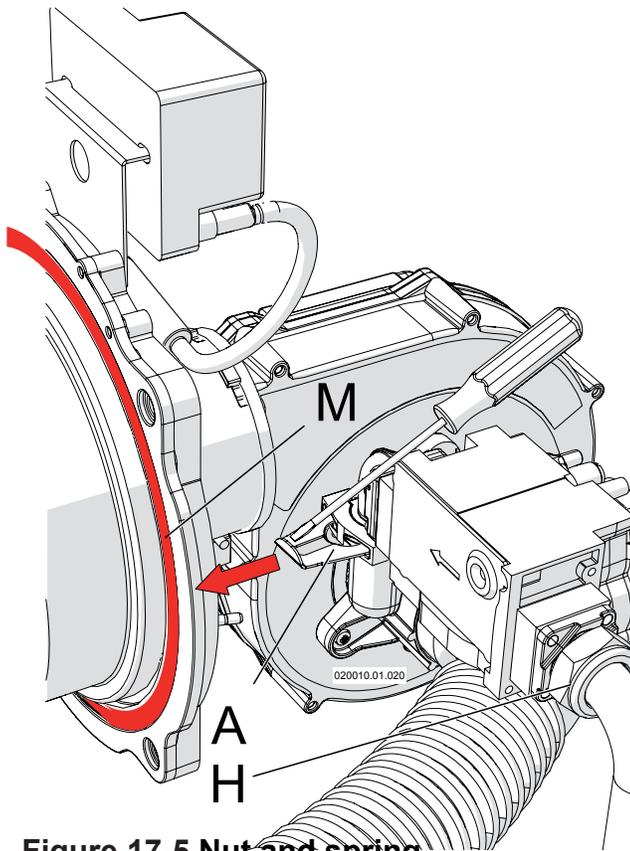
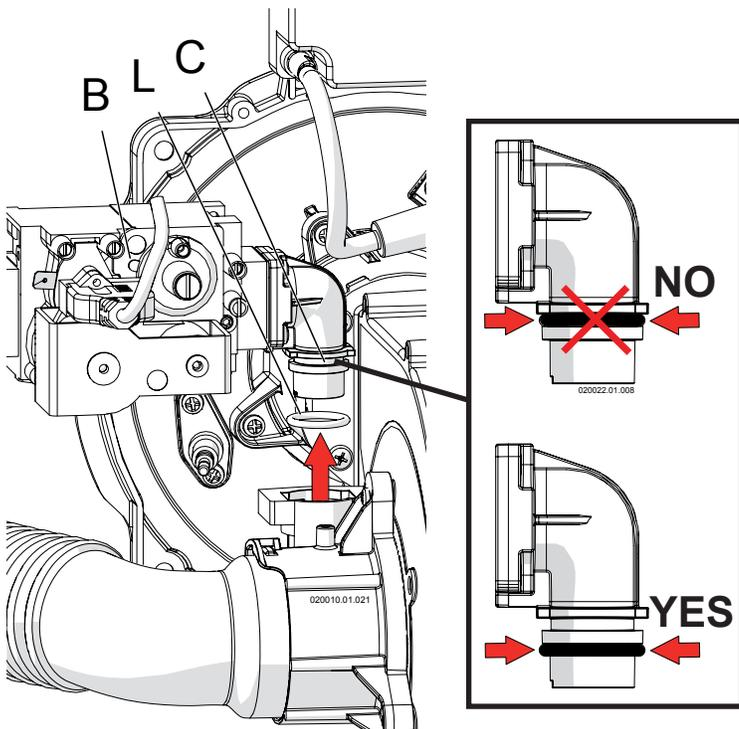

Figure 17-5 Nut and spring that fixes the gas valve
Figure 17-6 Remove the gas valve
7. unscrew nut "H" (Figure 17-5). Pay attention to the gasket between nut "H" (Figure 17-5) and the gas valve.
8. take away the spring "A" as per Figure 17-5. Help yourself with a screwdriver;
10. Remove the gas valve from its position (see Figure 17-6). Take care attention to the o-ring "L" of Figure 17-6;
17. replace gasket "M" as per Figure 17-5 (Part number for this gasket is 60703047). Take care that the gasket and its site are clean.
! WARNING!!! Pay attention to the gasket "M" (Figure 17-5) during reassemble. When finished, perform a leakage test with the burner firing. Always use an approved leak detection method. Failure to comply with this warning can cause fire, extensive property damage, severe personal injury or death!
18. reassemble the components by proceeding in reverse order. Pay attention in the reinstalling of gasket between nut "H" of Figure 17-5 and of the o-ring "L" of Figure 17-6. These must be in good condition. If not they must be replaced with;